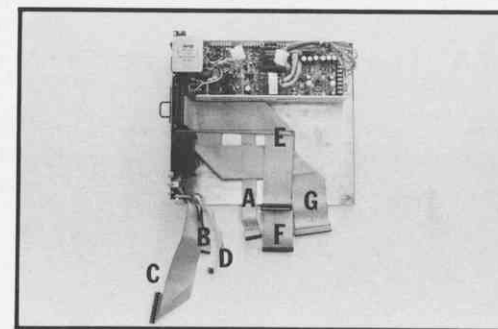

Figure 33 Ribbon Cables
- 4.10 The ribbon cables should now be visible as in Figure 33.